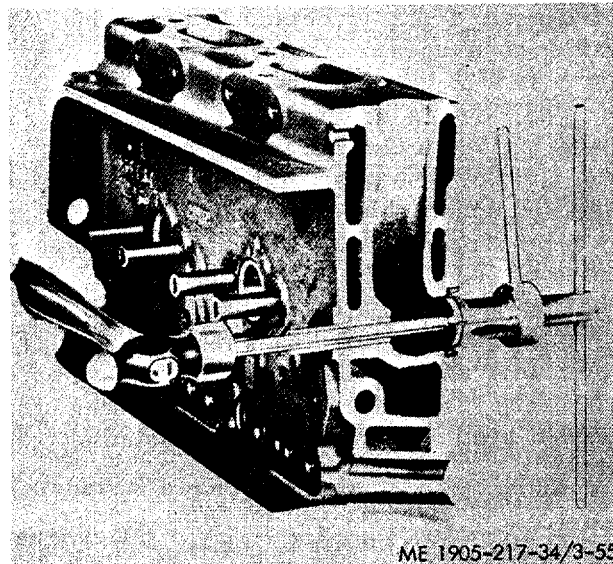

Figure 3-55. Valve seat insert, removal.
- (10) Place the cylinder head on its side as shown in figure 3-55.